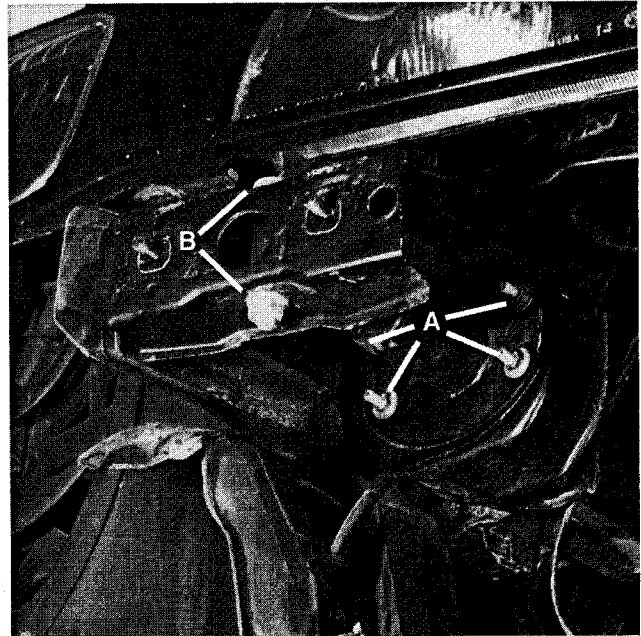

Fig. 9. Front bumper impact absorber mounting nuts (A) and bumper bracket hardware (B).
The bumper mounting bracket and impact absorber mounting hardware are accessible with the front bumper removed, as described above. See Fig. 9.
- Remove bumper bracket bolt. Refer to Fig. 9.